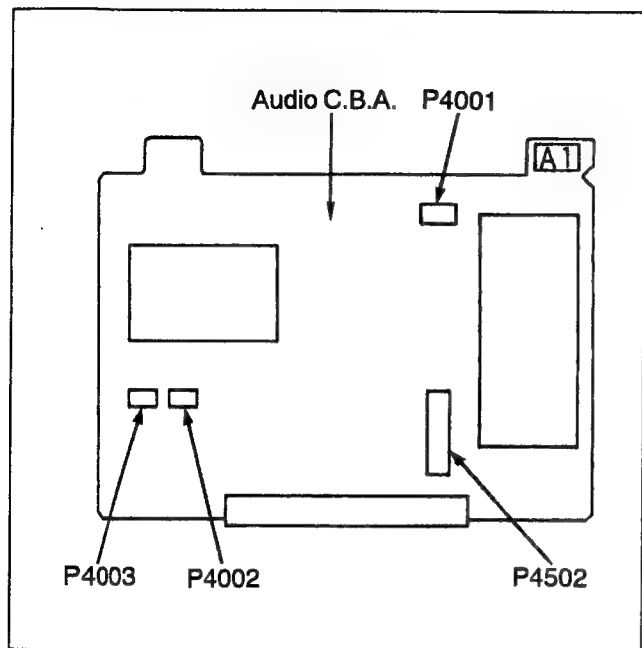

Figure D10
1. Disconnect the 4 Flexible Wires from the connector P4001, P4002, P4003 and P4502 on the Audio C.B.A. (Figure D10.).